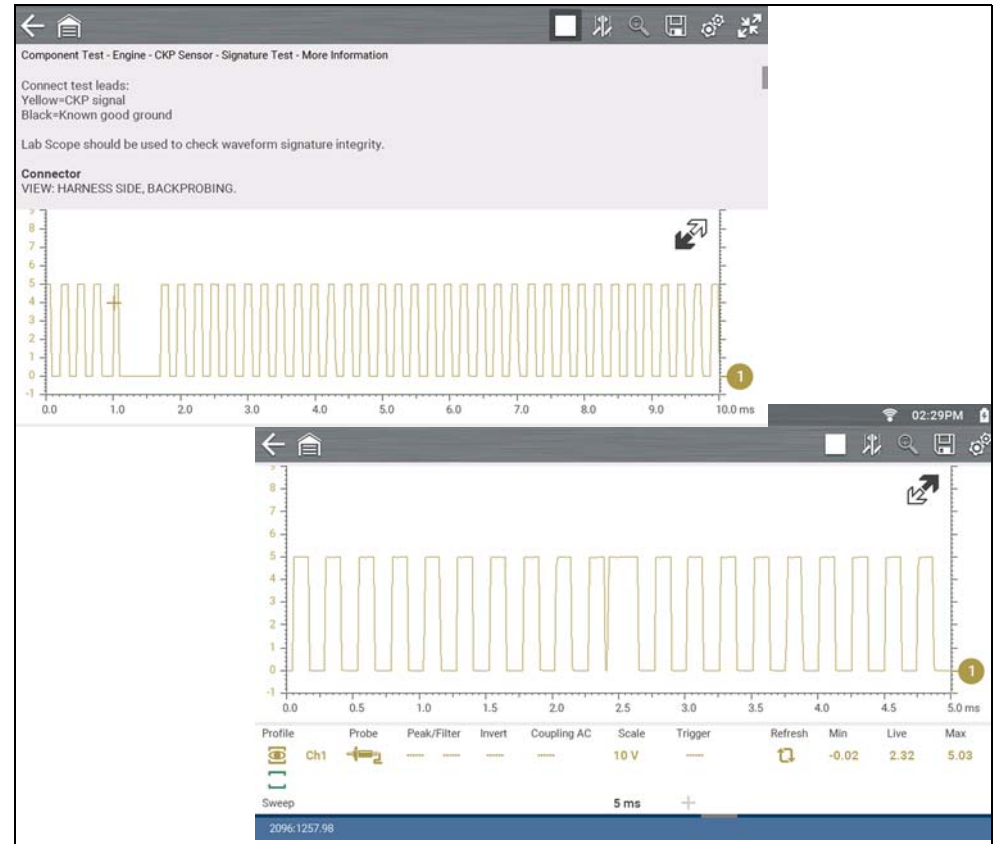

Figure 8-9
4. Use the **Expand/Collapse** icon to toggle through split and full screen views and to display the control panel (*Figure 8-9*).